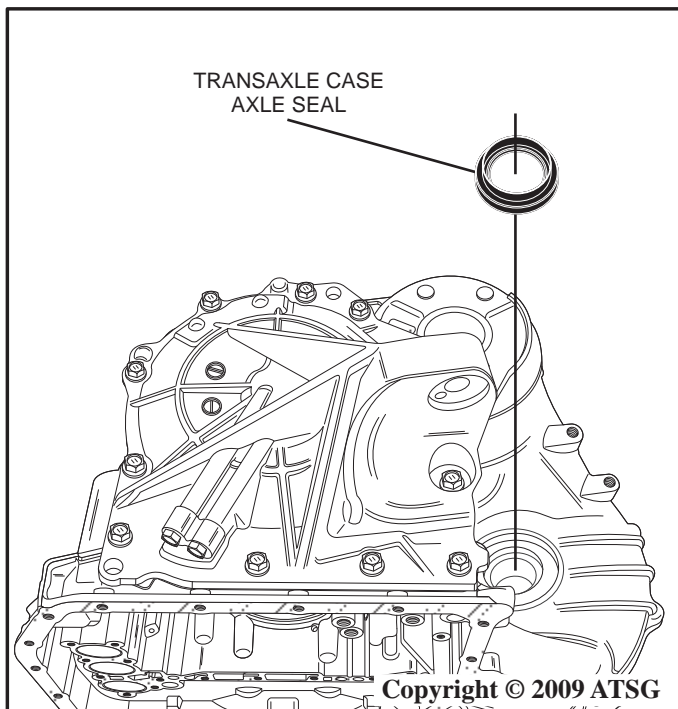

Figure 178
67. Using a plastic hammer, with even taps, carefully install the torque converter housing axle seal into the case as shown in Figure 178.